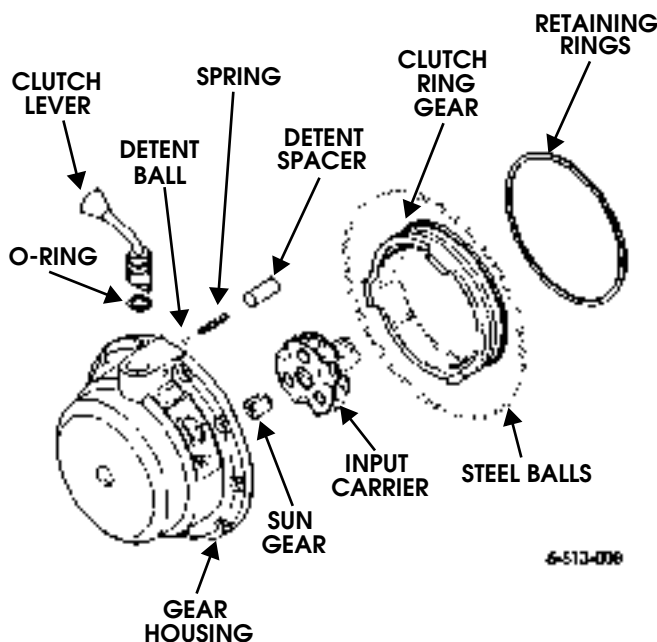

Figure 9-167: Gear Housing
16. Remove detent spacer, spring, and detent ball from gear housing (Figure 9-167).
18. Remove two retaining rings from gear housing (Figure 9-167).
20. Remove input gear carrier assembly from gear housing (Figure 9-167).